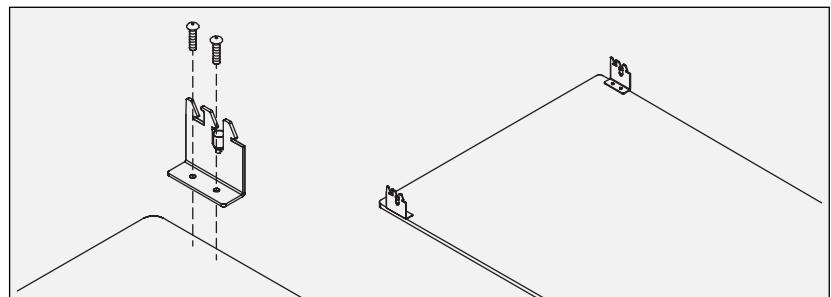

Fig. 21
- A. Install (1) left and (1) right Back Panel Bracket into the pre-drilled / marked holes provided at the top of the Panel using #8 x 5/8" wood screws (Fig. 21). Do not tighten screws completely.